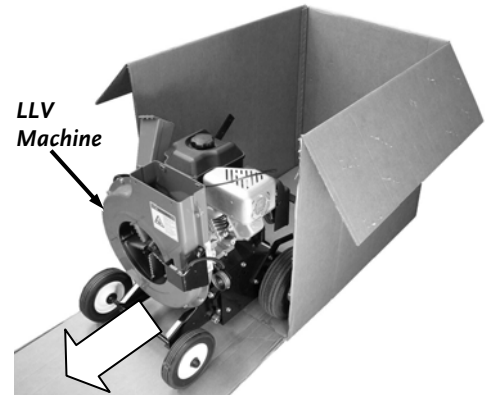

Figure 5
2. Use the utility knife to cut down the two corners one end of the Box, and then roll the machine out (Figure 5).